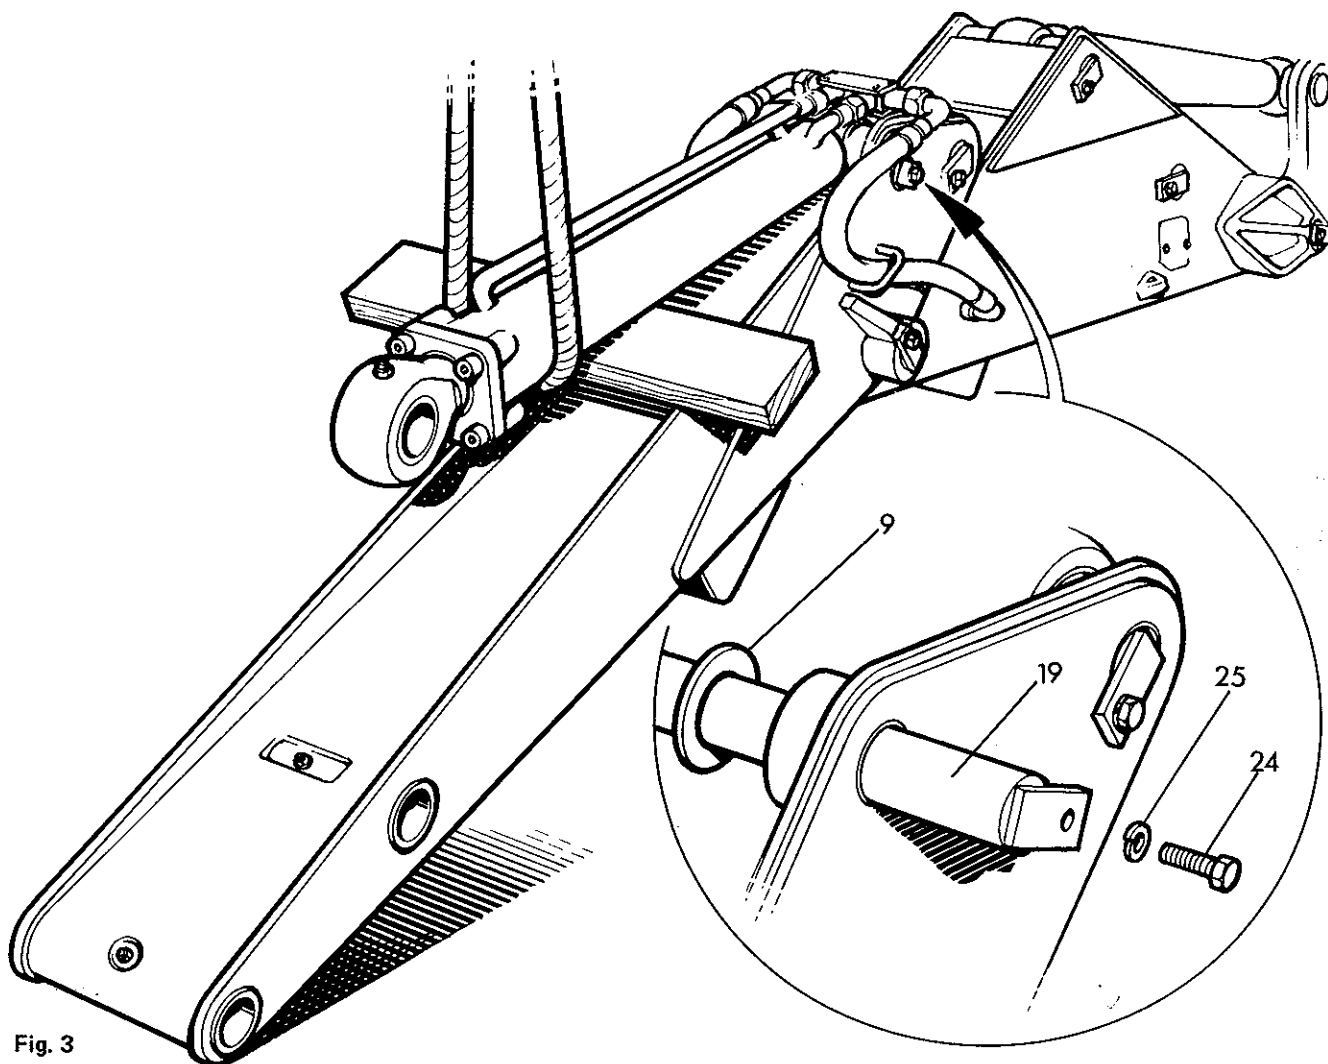

Fig. 3
- (1) Remove the setscrews (24) and the washers (25) from the headed pins (23).
- (2) Use a hammer and suitable drift to drive the pin (23) through the levers, the link, the ram and the dipper. Retain any spacers (9) that are fitted.
13. **Bucket ram. Remove.** (fig. 3)